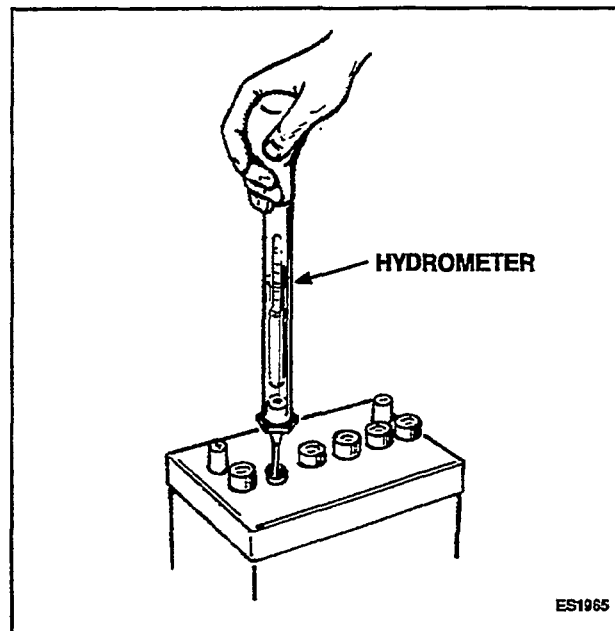

FIGURE 11. BATTERY CHECK
6. Use a battery hydrometer to check the specific gravity of the electrolyte in each battery cell (Figure 11). Charge the battery if the specific gravity measures less than 1.215. Do not overcharge the battery. Stop charging the battery when the electrolyte specific gravity reaches 1.260, at approximately 80° F (27° C).